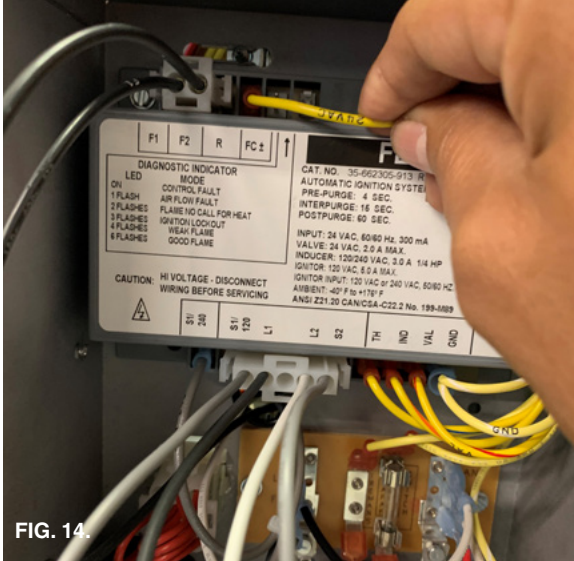

FIG. 14.
13. Connect the yellow wire labeled 24V from the multi-pin connector to the yellow wire labeled 24V coming from the PCBA as shown in Fig. 14.